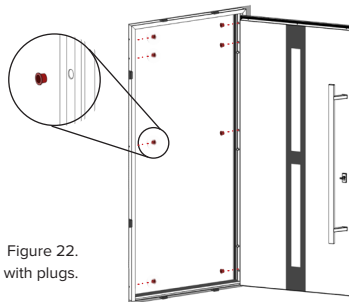

Figure 22.
3.18. After the final installation acceptance of the door unit, mounting holes shall be closed with the included plugs (figure 22).